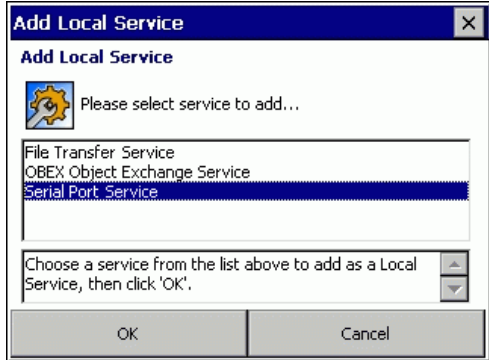

Figure 2-117 Add Local Service Screen
1. Select the *Services* tab (see Figure 2-117 on page 2-89).